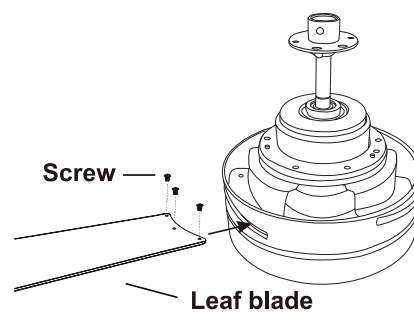

Fig.6
Step 2 Fasten blade assembly to motor using the screws supplied. (Fig. 6)